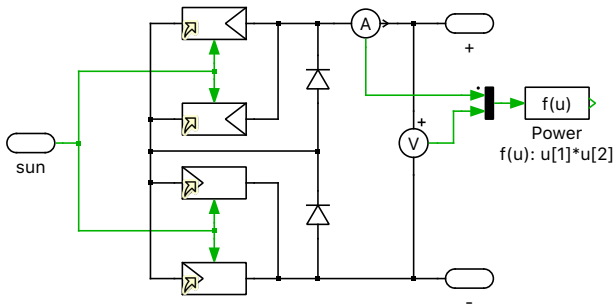
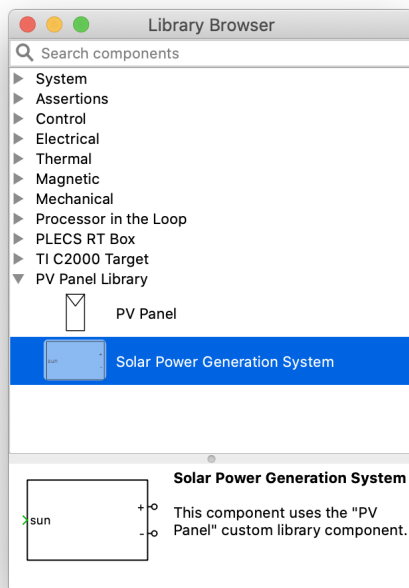

Figure 5: Solar Power Generation System component using the PV Panel component
Figure 6: PLECS Library Browser with the updated user library containing a library component inside
It is possible to create a new library component that contains an existing custom library component. For example, a new custom component titled “Solar Power Generation System” is built using the PV Panel user library component, as shown in Fig. 5. This component can then be structured to be within the same section as the original PV Panel user library component, as shown in Fig. 6. The updated custom component model is provided in the attached reference files as `pv_lib_final.plecs`.
- 3 Within the schematic of this subsystem component, build the circuit shown in Fig. 5, using the PV Panel library component.
- 9 Save the model. The newly created component should now appear in the same section of the library as the PV Panel component, as shown in Fig. 6.
At this stage, your model should be the same as the reference model, `pv_lib_final.plecs`. And the newly created library should now be visible in the PLECS Library Browser, as shown in Fig. 6.